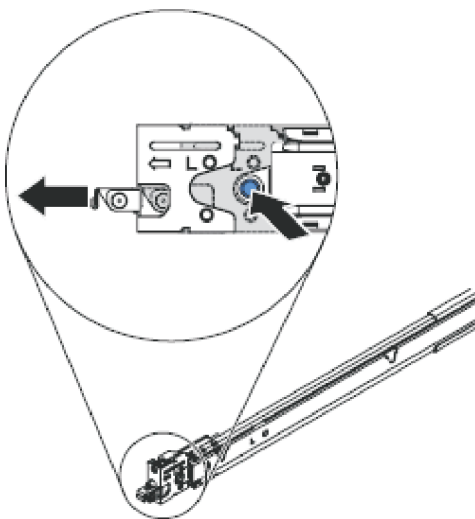

Figure 70. Preparing the front end of the slide rails
4. Prepare the front end of the slide rails, as shown in Figure 70.